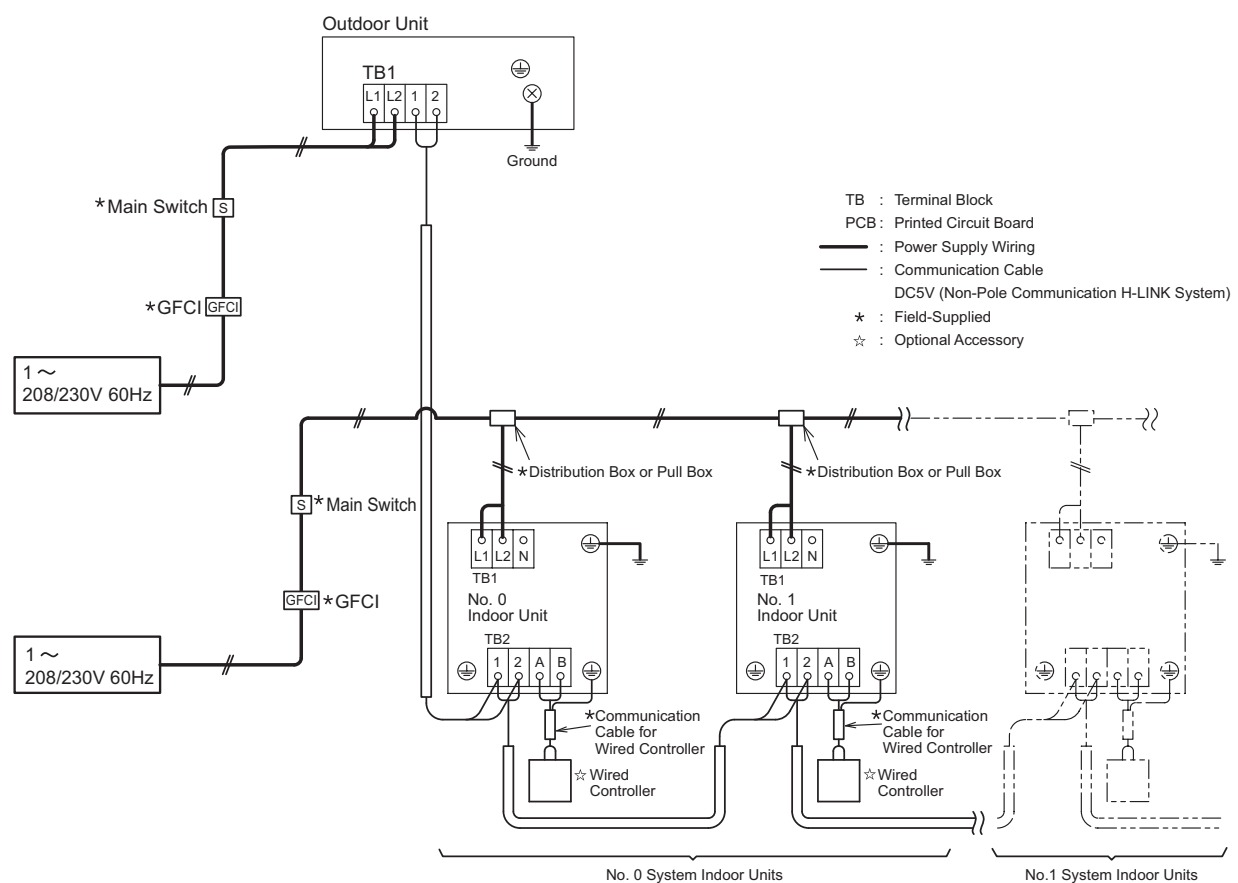

Figure 7.1 Instruction for Electrical Wiring Connection
- (3) Connect the communication cable between indoor units, and outdoor unit, as shown in Figure 7.1.
- (4) Connect the communication cables in the same refrigerant cycle unit. (If the refrigerant piping of indoor unit is connected to the outdoor unit, also connect the communication cables to the same indoor unit.)